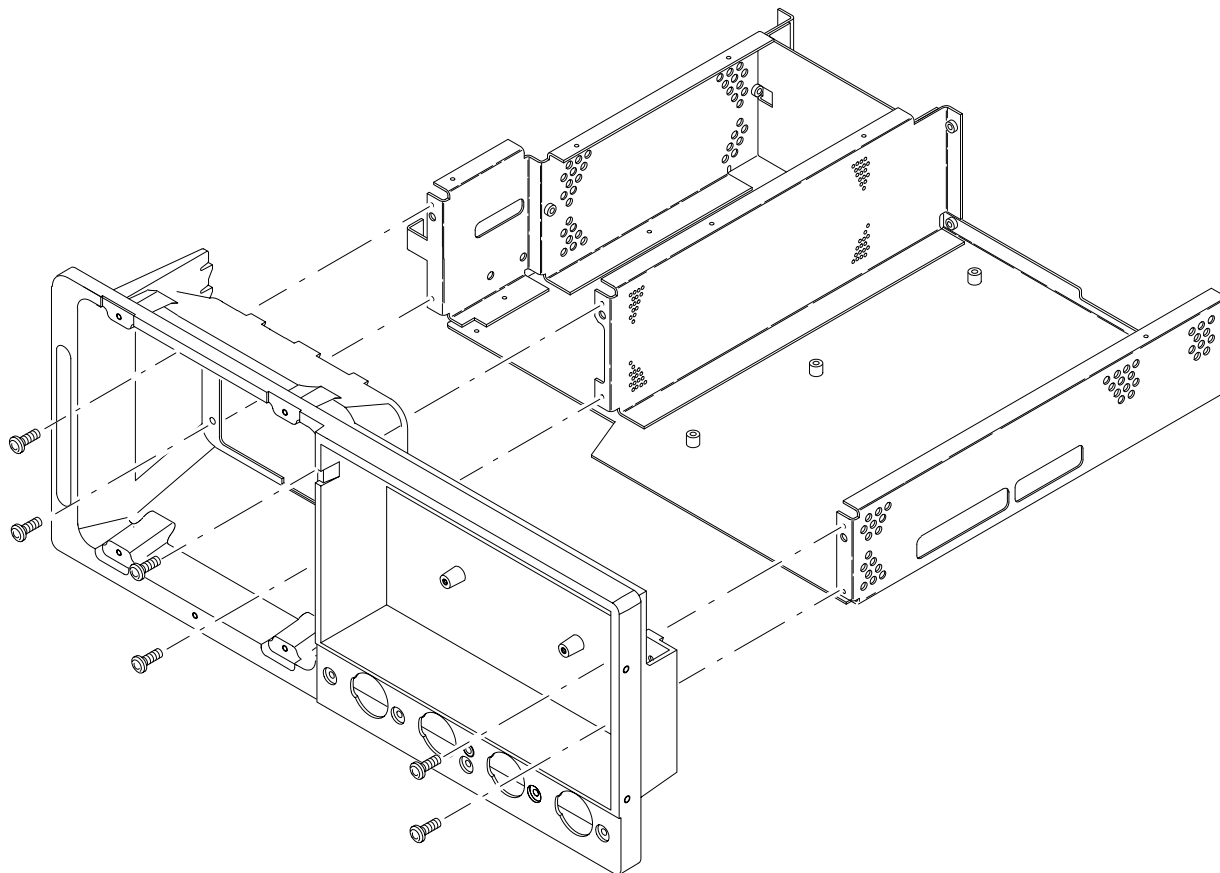

Figure 6–24: Front Subpanel Removal
- c. Locate the modules to be removed in the locator diagram *Inner-Chassis Modules*, Figure 6–2, page 6–13.
3. *Remove the front subpanel:* Remove the six screws securing the front subpanel to the main chassis. (See Figure 6–24 for screw locations.) Lift the front subpanel up away from the main chassis to complete the removal.
- a. Align the front subpanel to the main chassis, taking care to ensure that the main chassis slips into its alignment slot on the front subpanel (see magnified view, Figure 6–24.) Then reinstall the six screws removed in step 3.
- b. Familiarize yourself with the modules illustrated in figures 6–1, 6–2, and 6–3.